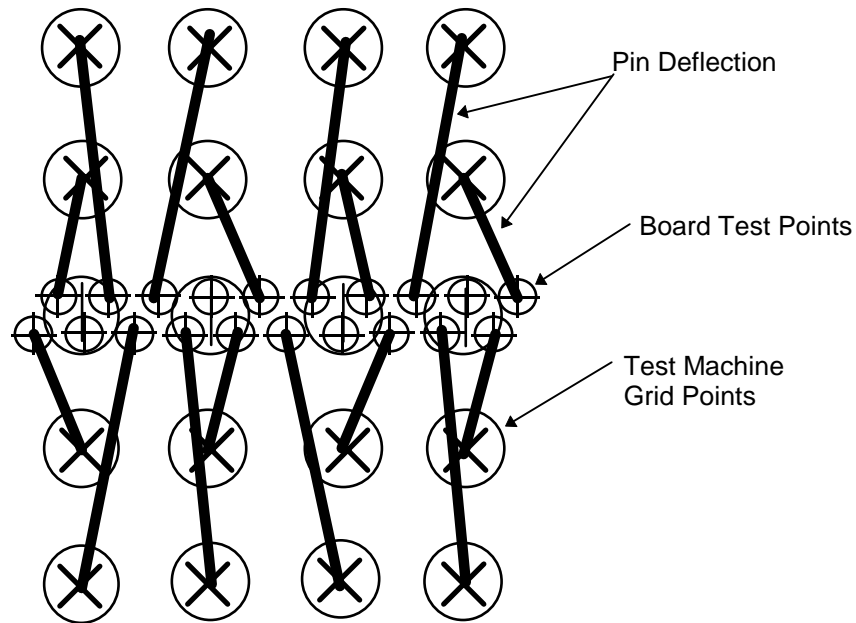

Figure 1
**Minimum Pad Length** - (Refer to figure 1.) The minimum pad length for all SMD pads is currently set at 1.5mm.
Figure 1 illustrates this problem by showing one side of a typical 0.5mm pitch device overlying a 2mm (0.080") grid of test machine grid locations. For every 2mm (0.080") down each side of the device, there are five SMD pads, test points. To test all the pads, a swath of five test machine grid locations must be reserved for each side of a 0.5mm pitch quad-pack. Then, pads for two 0.5mm (0.020") pitch devices can be located no closer than 10mm, with absolutely no other test points, e.g. resistor or capacitor pads, in between. If the quad-packs are closer than 10mm, or if other test points are placed in between, then some test points cannot be tested. Similarly, a swath four locations wide is required for each side of a 0.635mm (0.025") pitch device. Then, two 0.635mm (0.025") devices can be located no closer than 8mm (0.32"), with no test points in between.